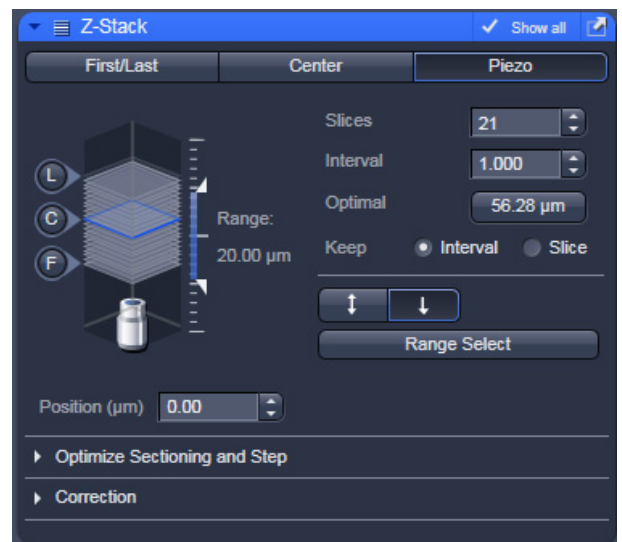

Fig. 5-41 Z-Stack tool Piezo mode with Z-Stack Navigation displayed
- Define the first and last slice using **Start/End** mode. Activate **Piezo** mode (Fig. 5-41). The total Range of the Z-Stack is limited to 250 µm when using the Piezo device. Adjusting the value for **Number of Slices** or **Interval** is independent from each other and affects the Range of the stack. The Focus Position is not changed.